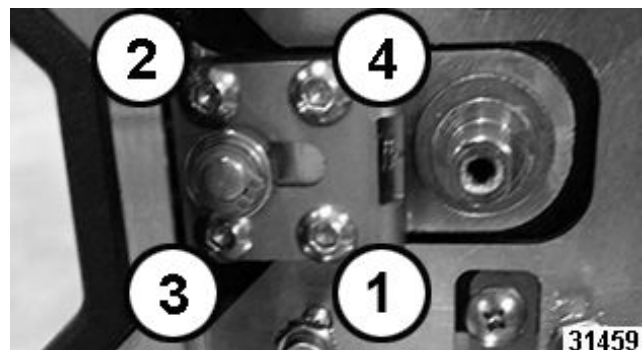

Fig. 16
2. Remove four allen screws (1-4 in Fig. 16) on plunger mechanism.
NOTE: When installing new plunger, tighten allen screws in crisscross pattern as numbered in Fig. 16 and torque to 24 in. lbs.